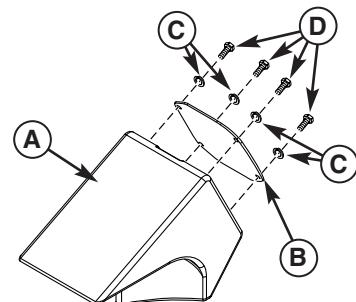

Figure 12. Install Plate to Mulch Plug
- Secure plate (B, Figure 12) to the mulch plug (A) using 1/4-20 x 3/4 capscrews (D) and 1/4 lockwashers (C).